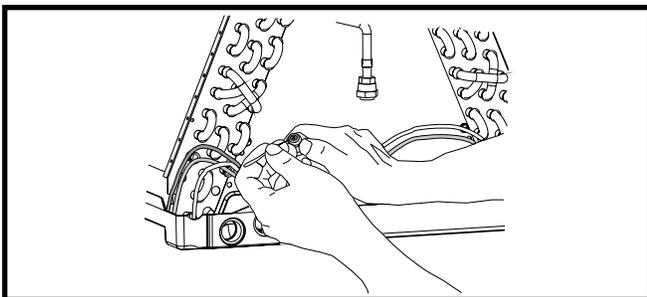

Figure 3. Removal of Orifice
- to scratch either part. Carefully remove the restrictor orifice from the distributor body. See Figure 3.
- Insert a light-gauge wire hook between the distributor body and the restrictor orifice while being careful not to scratch either part. Carefully remove the restrictor orifice from the distributor body. See Figure 3.